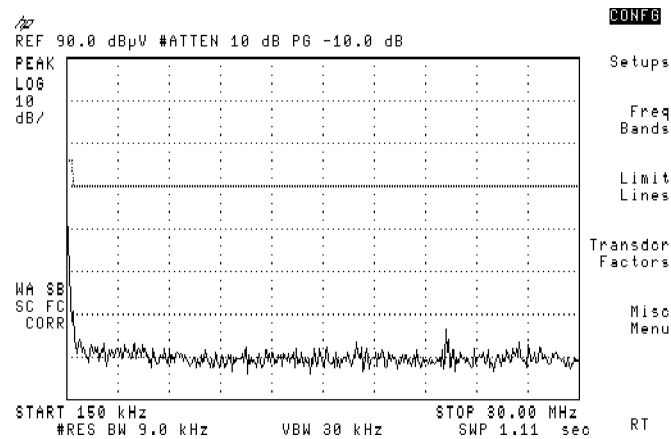

Figure 3-19. VDEA C 2 Loaded into the Analyzer
4. Press **Load Setup** to load the file. See Figure 3-19.